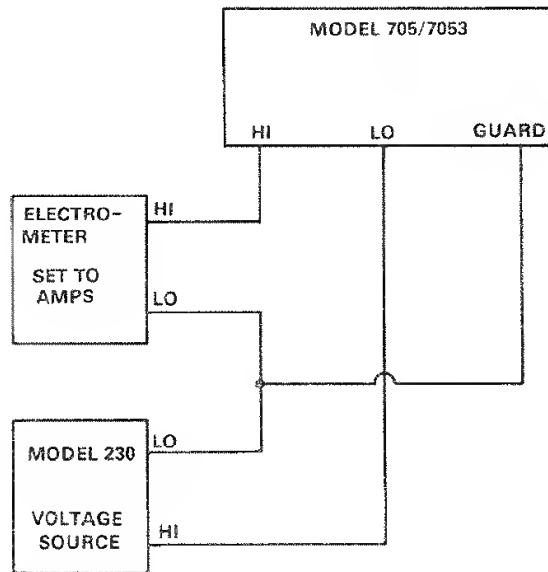

Figure 4. Model 7053 Input Isolation (Differential) Test Circuit
- A. This test measures the differential input isolation, which is the leakage resistance between a guarded channel's HI and LO connections. Set up the test circuit shown in Figure 4.